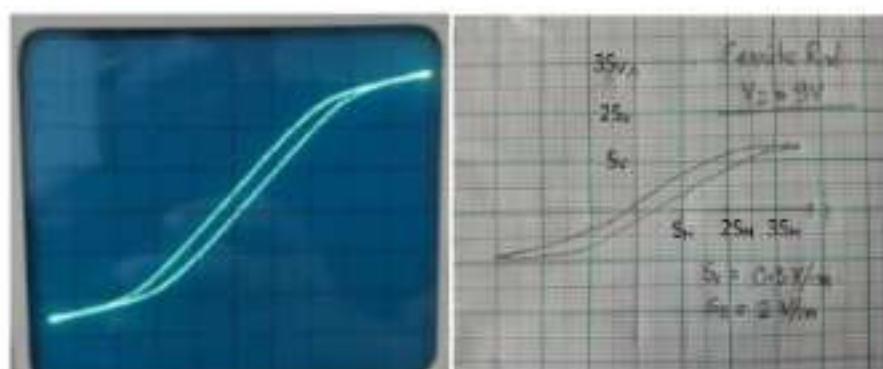

Figure 3: (a) B-H loop for transformer core sample on the CRO screen
- Trace the area of the loop on butter paper from the screen of CRO (Fig. 3) and retrace it on a graph paper.